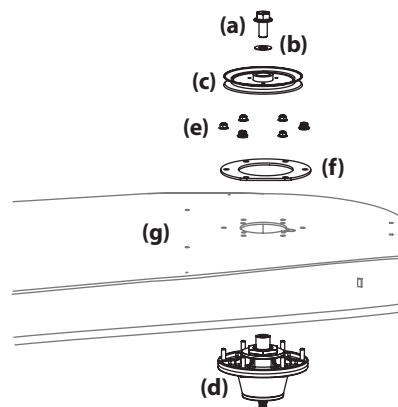
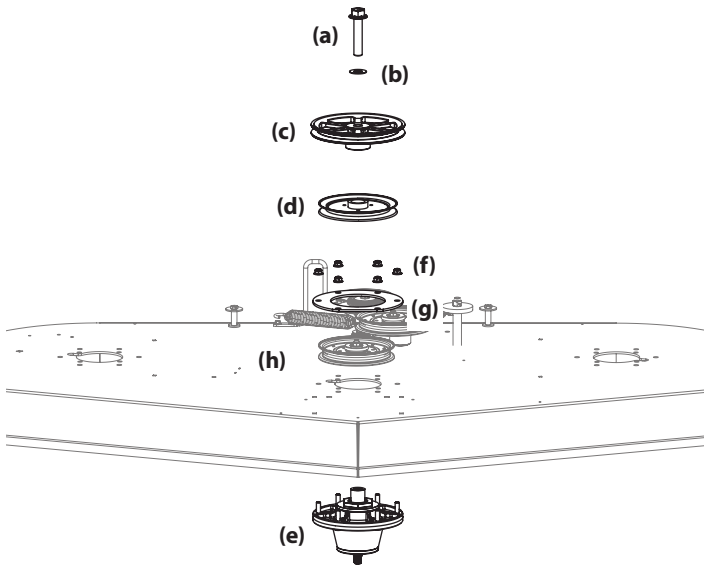

Figure 47
Figure 48
- To remove the left and right spindle assemblies (Figure 47):
- Remove the six (6) flange lock nuts (e) securing the left and right spindle assemblies (d) and the support plates (f) to the deck shell (g).
- To remove the left and right spindle assemblies (Figure 48):
- Remove the six (6) flange lock nuts (f) securing the center (d) spindle assembly (e) and the support plates (g) to the deck shell (h).
9. Reverse the process to install the spindle assembly. When installing the new spindle assembly be sure to install the hardware exactly as shown in Figure 47 or Figure 48. Torque the hex flange bolts to 250 ft-lbs. (338.95 N-m) and the flange lock nuts to 21-32 ft-lbs (28.47-43.39 N-m).